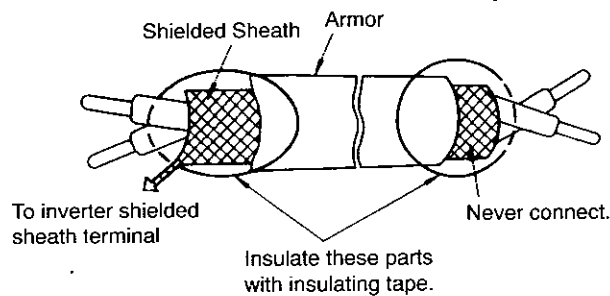

Fig. 14 Shielded Wire Termination
- When twisted shielded wires are used for control signal lines, terminate them as shown in Fig. 14.